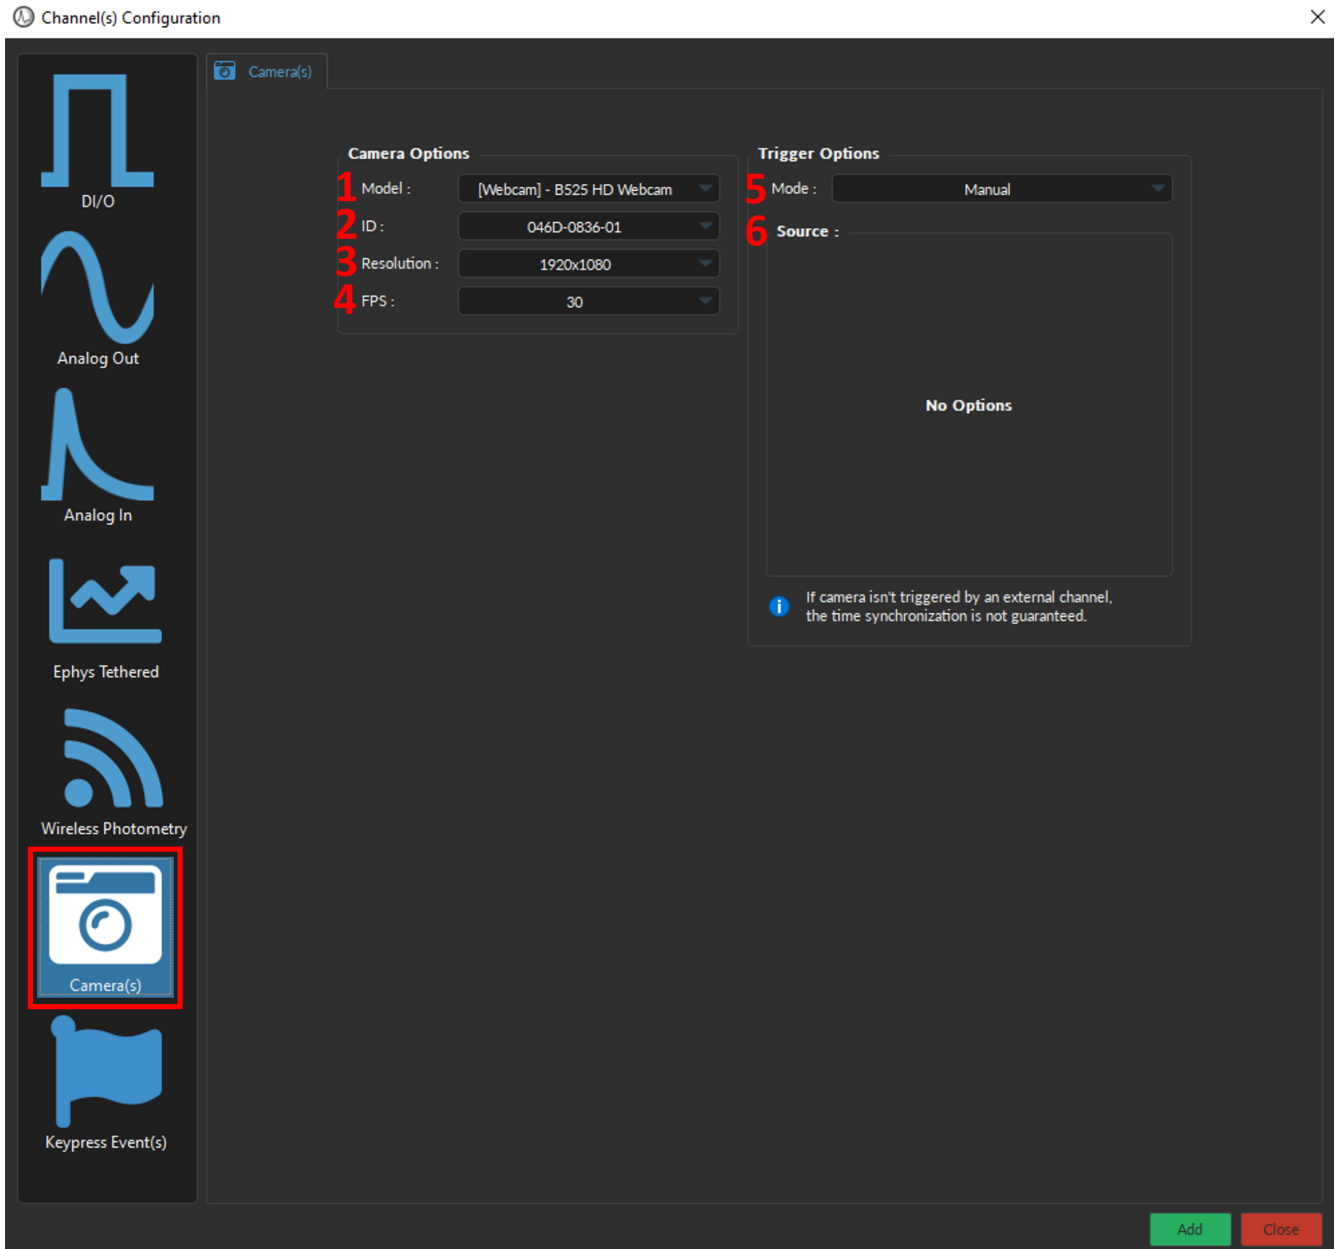
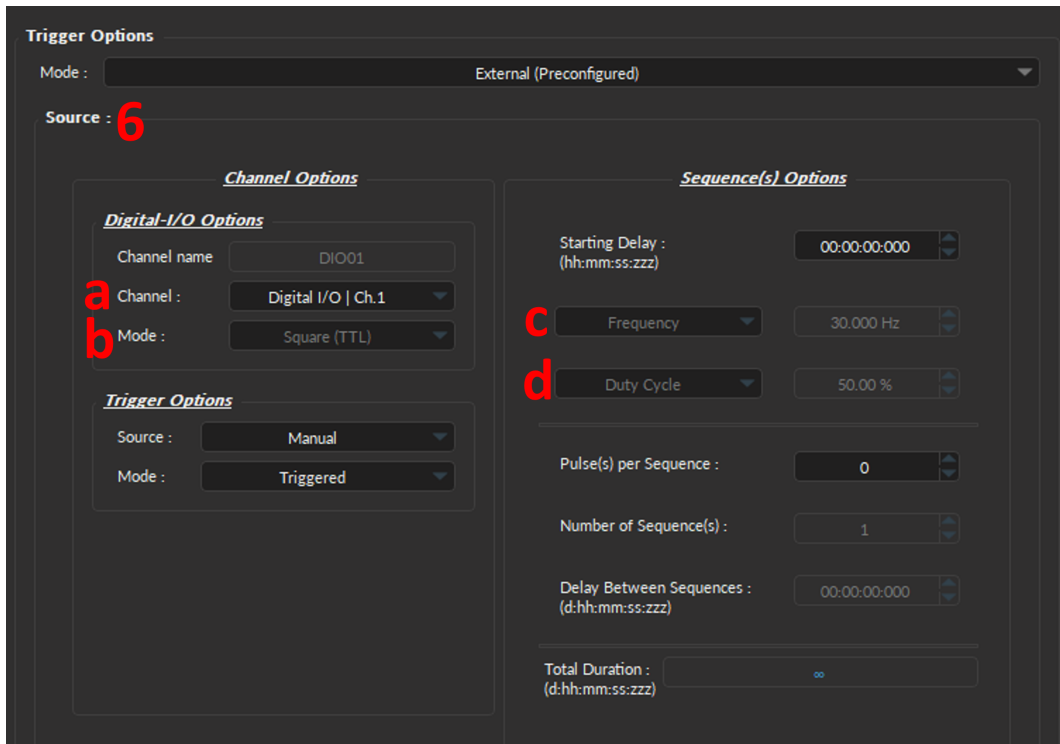

Figure 16.55: Channel(s) configuration window, Camera
Figure 16.57: Channel(s) configuration window, Camera - External (Preconfigured)
1. The **Model** (Fig. 16.55, 1) allows you to select the camera of choice based on the type of camera. Note that a *Doric Behavior Camera* provides DIO synchronization option (such as **External** and **External Preconfigured** modes) that are not available with a typical USB 3.0 web camera.
2. **ID** drop-down list (Fig. 16.55, 2) is used to select a camera based on its unique ID. The ID is beneficial when multiple cameras of the same model are required for the experiment.
3. The **Resolution** (Fig. 16.55, 3) is used to set the size of the image. The larger the number of pixels used for width x height, the better the resolution. Currently, image size can range between 160x120 to 1920x1080 pixels.
4. The **FPS** (Fig. 16.55, 4) is used to specify the frame rate of the camera (i.e. the number of images displayed per second). FPS can be any value between 5 to 30 for web cameras and up to 60 FPS for the *Doric Behavior Camera*.
5. The **Mode** (Fig. 16.55, 5) sets the type of trigger that will control the camera. Depending on the type of camera, at most three modes are available:
6. The **Source** (Fig. 16.55, 6 & Fig. 16.57, 6) is only used for the **External (Preconfigured)** mode, and displays the **Digital I/O** channel with the preconfigured parameters that will be created at the same time as the **Camera Channel** (Fig. 16.57). For a detailed description of each Digital I/O parameter see Section 16.6.1. Briefly, key parameters include:
- a) The **Channel** (Fig. 16.57, a) corresponds to the physical Digital I/O channel number on the NC500 that is connected to the trigger cable of the *Doric Behavior Camera*.
- b) The **Mode** (Fig. 16.57, b) is by default set to *Square (TTL)*, which provides the external trigger signal to the camera. This parameter cannot be changed.
- c) The **Frequency** (Fig. 16.57, c) corresponds to the **FPS** set in the **Camera Options**. Changing the **FPS** will automatically change the **Frequency** in the **Sequence(s) Options**.
- d) The **Duty Cycle** (Fig. 16.57, d) is by default 50%. The frame will be taken at the start of each square pulse.